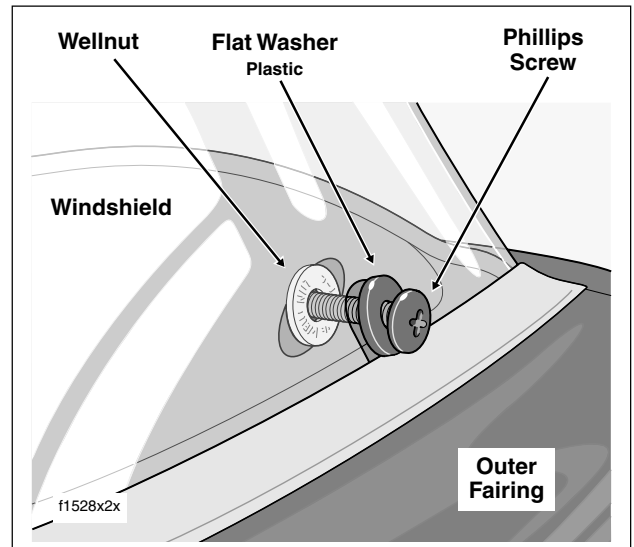

Figure 2-160. Install Windshield
2. Moving to front of motorcycle, push wellnuts into holes in outer fairing. See Figure 2-160.